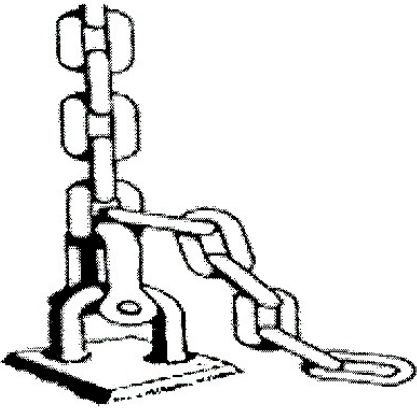

Figure 3-26
- e. Raise the boom to the desired height; shackle the bull chain to the deck (see Figure 3-26).
(1) Slack off the bull line slowly until the chain supports the weight of the boom.
(2) Remove the bull line from the cathead and coil it around the cleat.
f. Secure the bull line to the topping lift cleat by taking three (3) round turns on the cleats followed by three (3) figure eights.